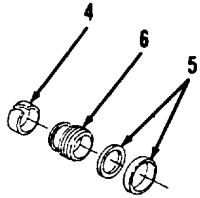

Figure 14-117.
4. Remove and discard ring (4) and seal assembly (5) from piston (6, Figure 14-117).